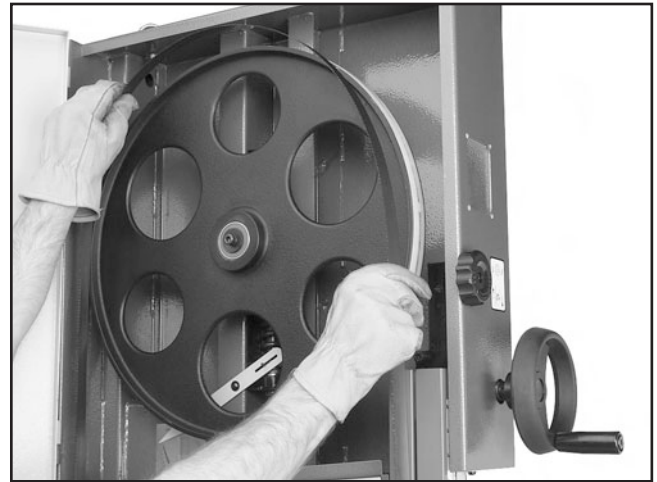

Figure 52. Placing blade on the wheels.
2. Slip the blade through the guides, and mount it on the upper and lower wheels (**Figure 52**).